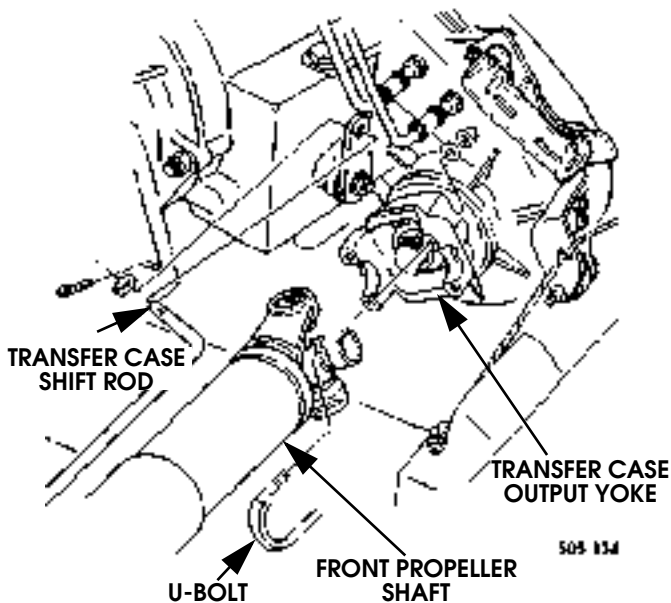

Figure 9-105: Front Propeller Shaft Attachment at Transfer Case
2. Remove U-bolt nuts and disconnect front shaft from transfer case output yoke (Figure 9-105).